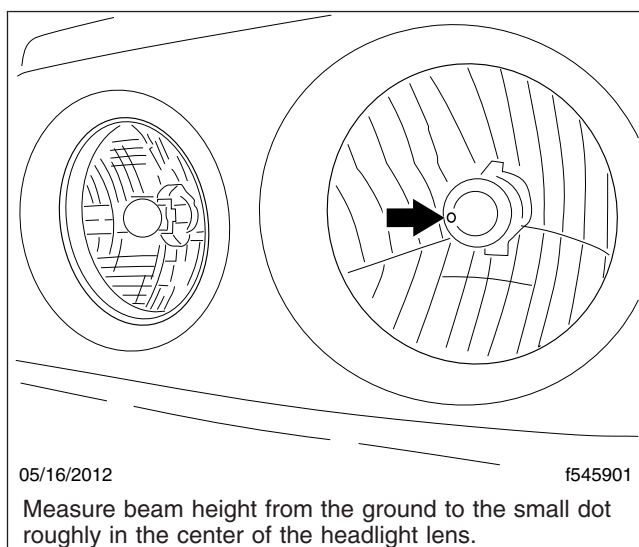
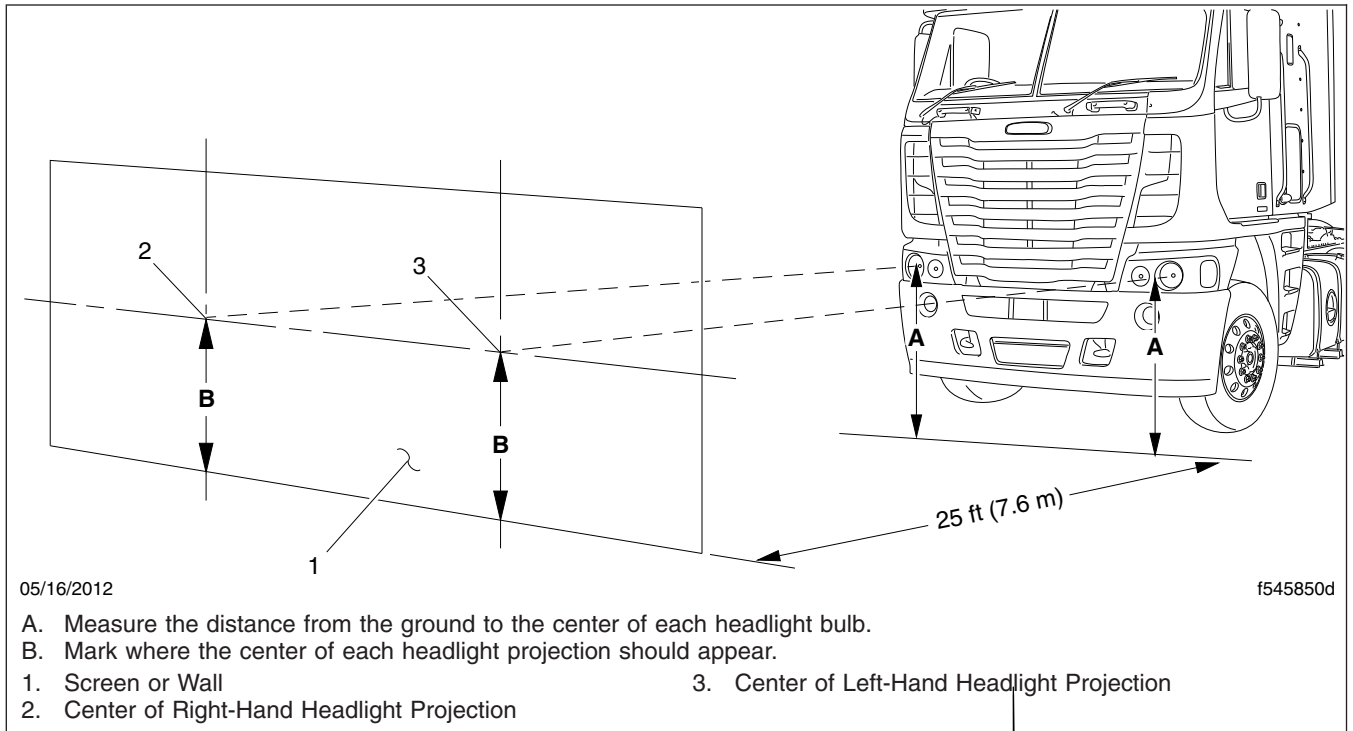

Fig. 19.1, Headlight Beam Height Adjusting Dot
Fig. 19.2, Headlight Aiming Screen/Wall
2. Each headlight has a height adjusting dot. See Fig. 19.1. Measure the distance from the ground to the height adjusting dot on each headlight (Fig. 19.2, Item A). Note those distances.
3. On the screen or wall, mark the locations of each headlight bulb center using the distances found in step 2. See Fig. 19.2, Items 2 and 3.